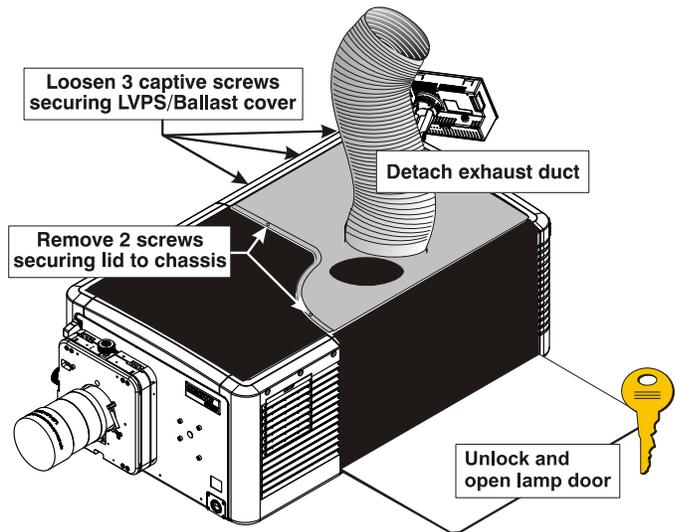

Figure 5-11 Rear Lid
3. Using a #2 Phillips™, remove the two captive screws securing the Rear Lid to the chassis (**Figure 5-11**).